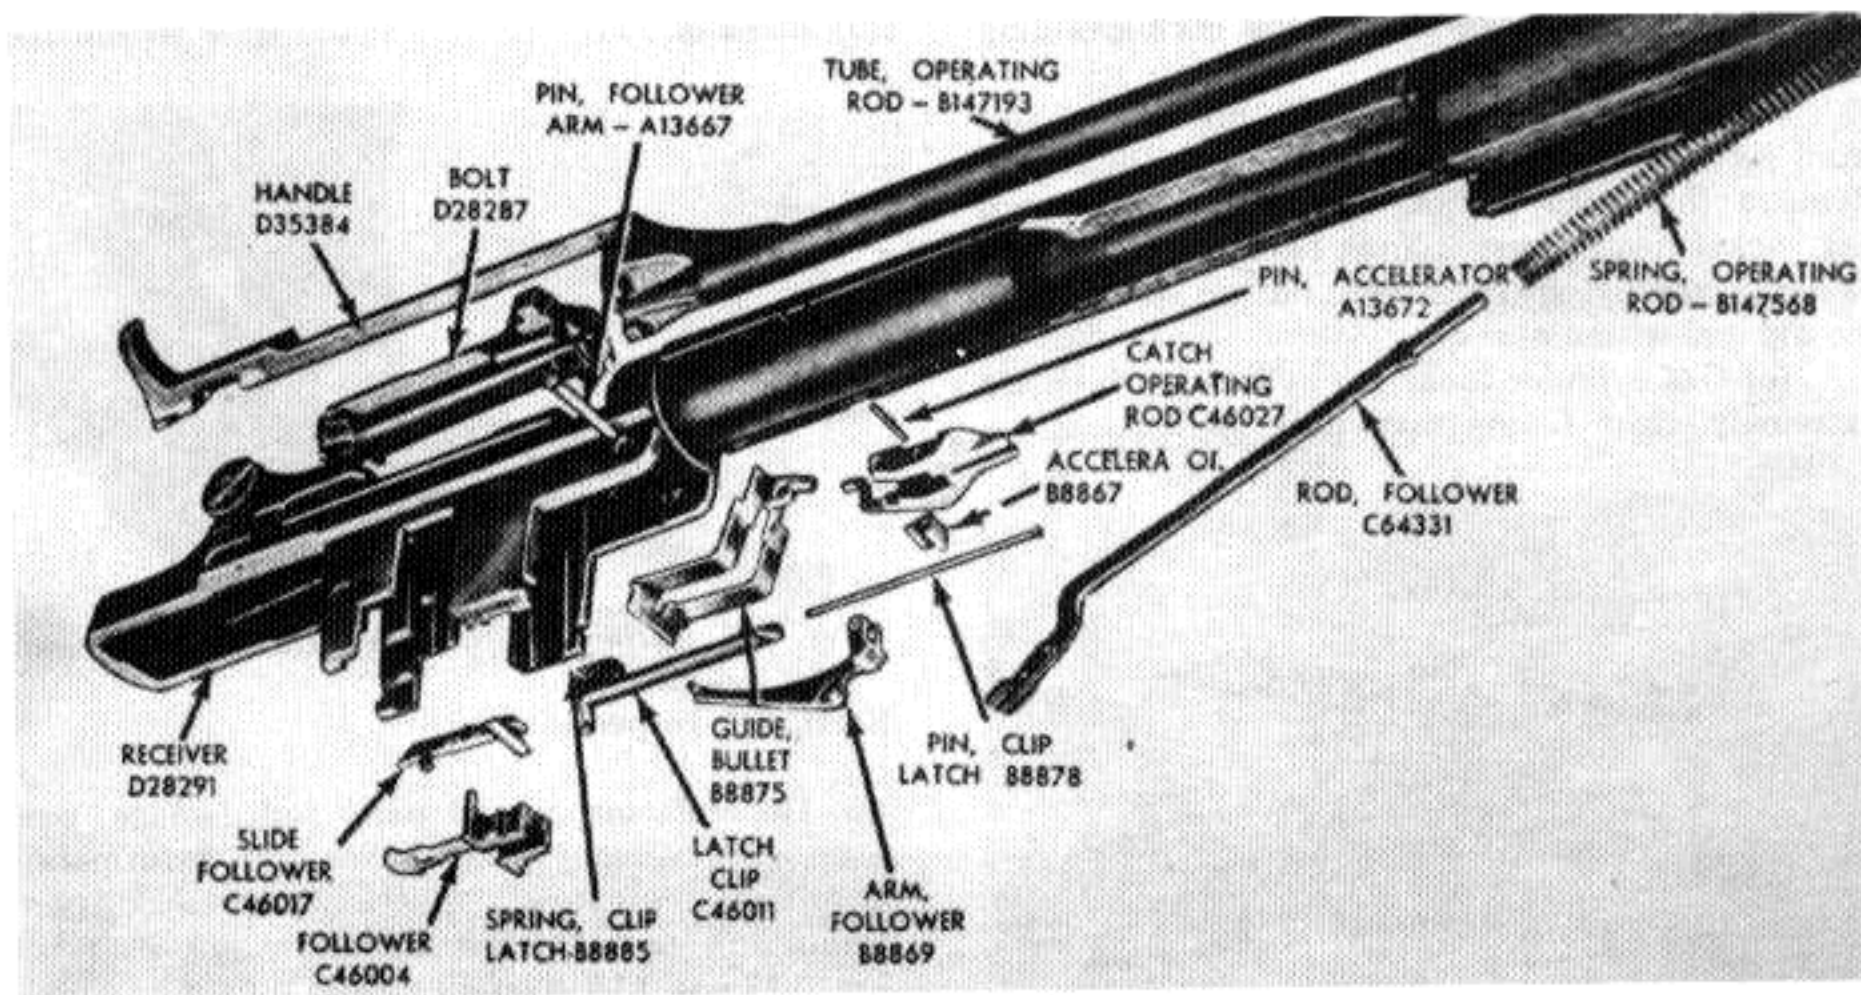
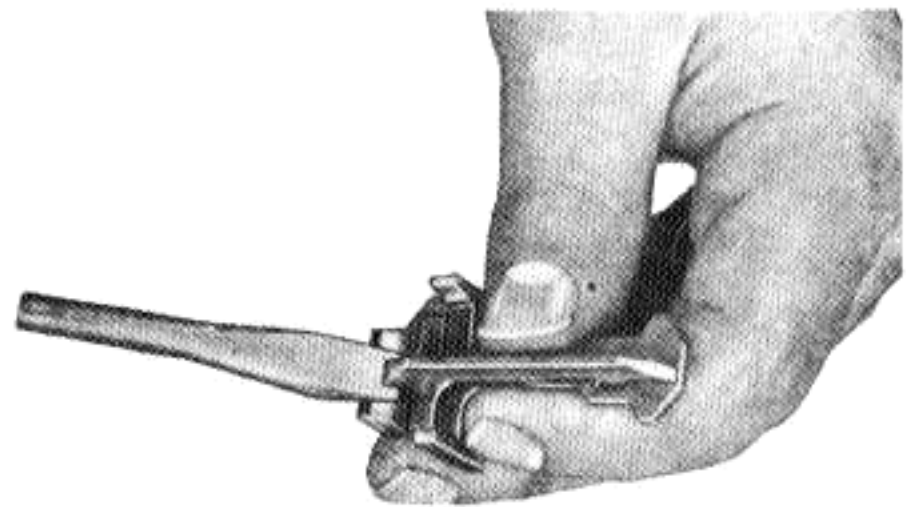

Fig. 111. Receiver group - disassembled view.
Fig. 114. Removing follower slide from follower.
42. Follower and slide assembly: disassemble the follower and follower slide (Fig. 111) only when necessary to repair or replace parts. If necessary to disassemble, insert the blade of a screwdriver under the front end of the slide (Fig. 114), pry upward and forward, unlocking the slide from the follower.